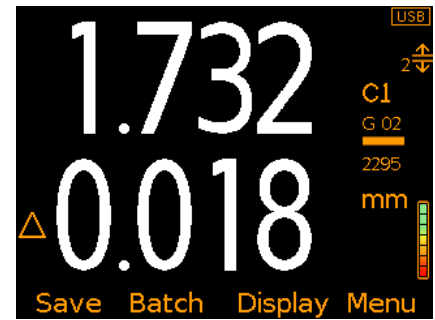

Figure 10: Readings & Differential
- **Readings & Differential (Δ)^c - Model T (Figure 10);** The last reading is displayed together with the variation from the NDFT (Nominal Dry Film Thickness) value set via Menu/Limit Memories/Create Limit Memory/Set NDFT.